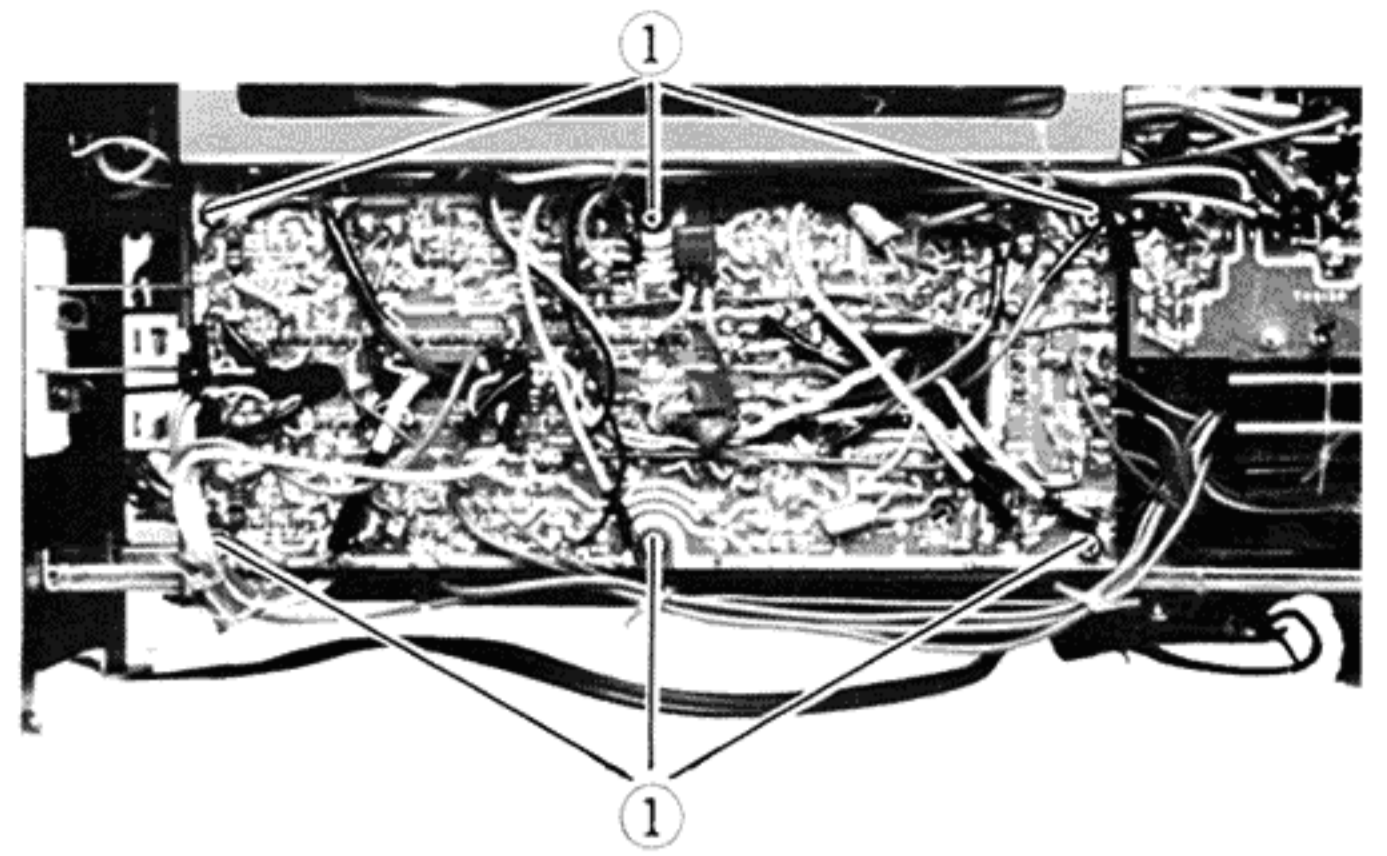

Fig. 10-1
- 1) Recording/playback amp circuit board (Fig. 10-1)